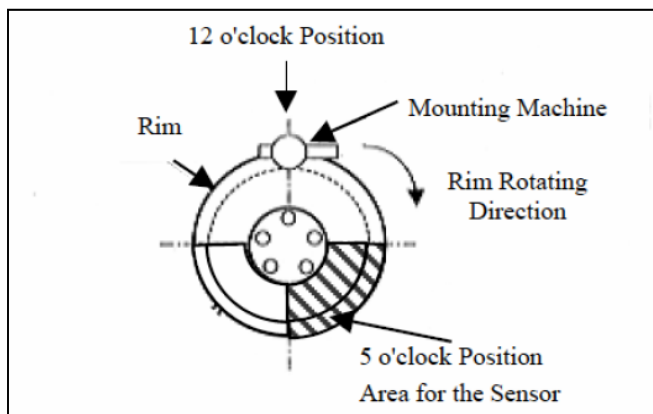

Figure 7b
- d. Re-position the wheel on the mounting machine with the sensor at ~ 5 o'clock position. See Figure 7b (Shaded Area).